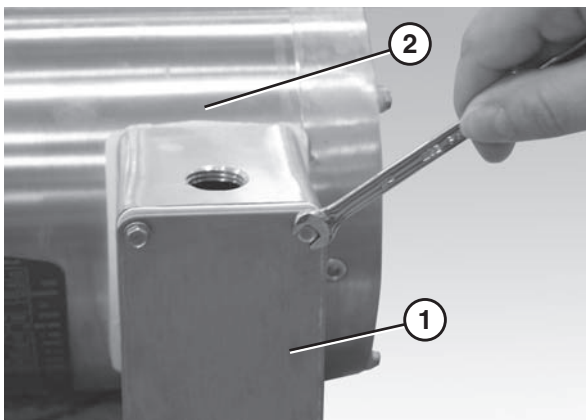

Figure 27
1. Loosen the screws and remove the cover (Figure 27, item 1) from the junction box located on the side of the motor (Figure 27, item 2).